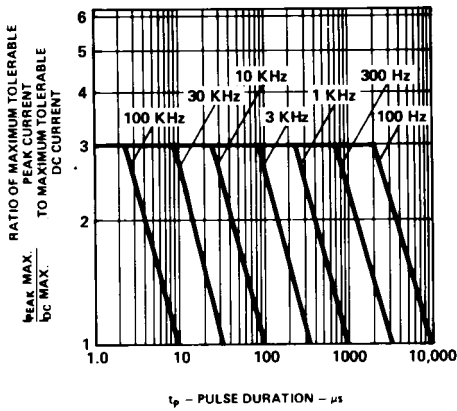

Figure 2. Maximum Tolerable Peak Current vs. Pulse Duration. ($I_{DC \text{ MAX}}$ as per MAX Ratings).
- See Figure 2 to establish pulsed operating conditions.